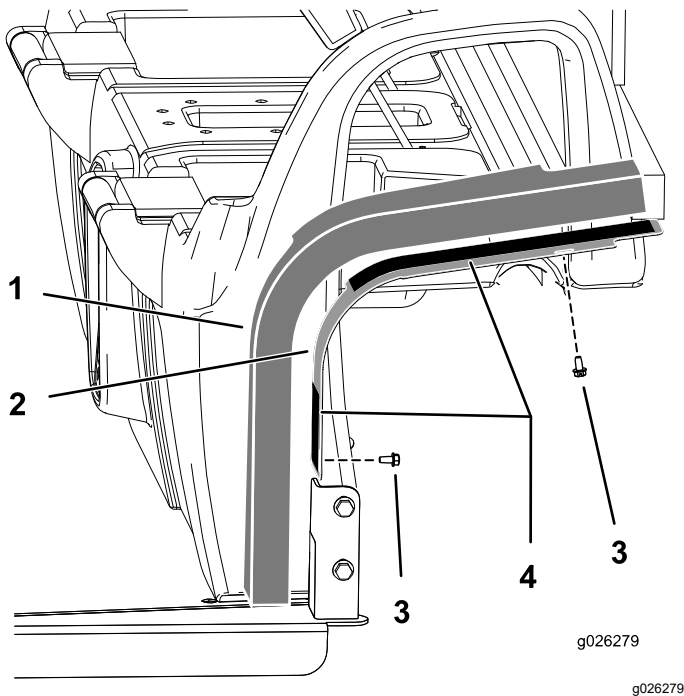

Figure 9
1. Fasten the mounting plates onto the cab using 4 bolts (1/4 inch) as shown in Figure 9.
3. Remove the paper backing from the double stick tape on the mounting plates (Figure 9).
4. Install the foam panels onto the assembly (Figure 9).